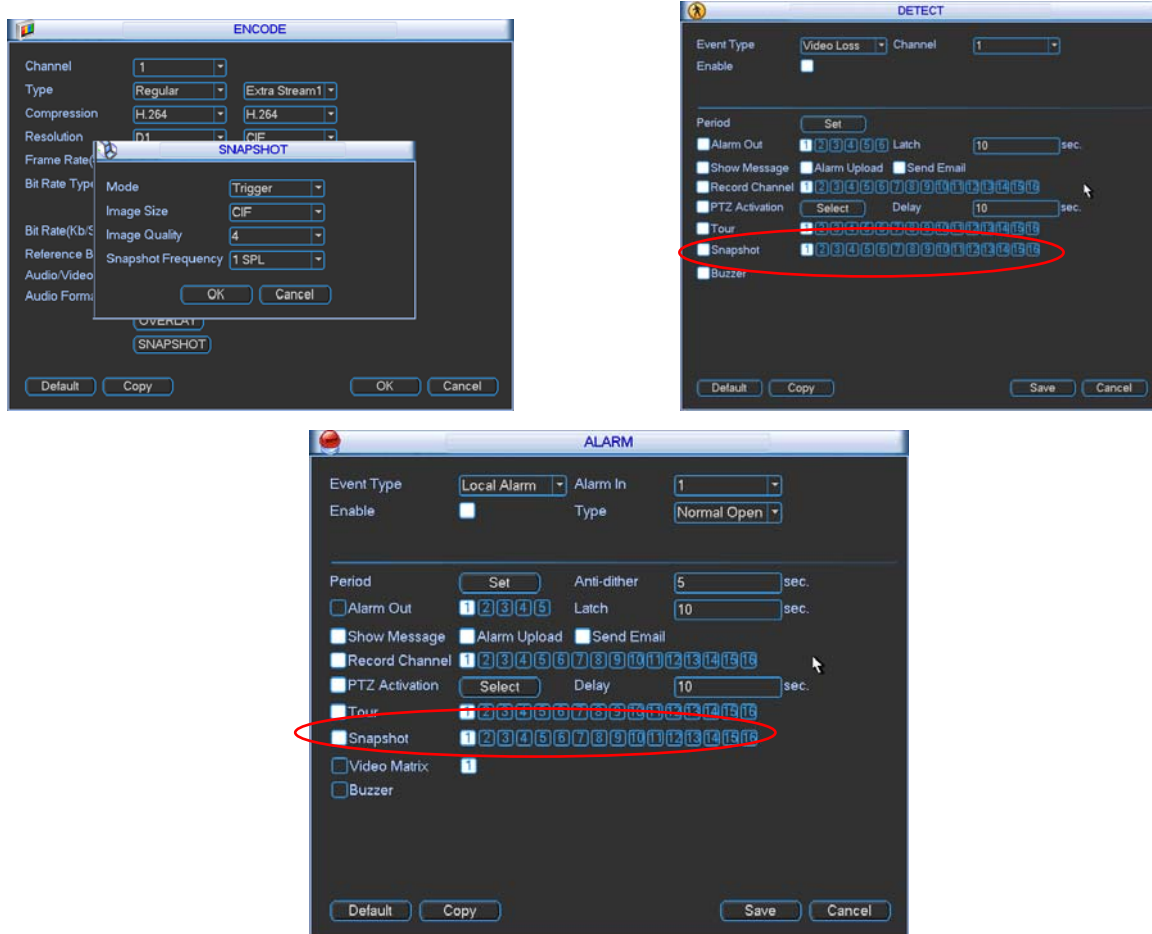

Figure 4-23
- In Encode interface, click snapshot button to input snapshot mode, size, quality and frequency. See the interface on the left of Figure 4-23.
- In Detect interface please enable snapshot function for specified channels (interface in the middle of Figure 4-23). Or in alarm interface (interface on the right of Figure 4-23) please enable snapshot function for specified channels.
Please refer to the following figure for detailed information. See Figure 4-23.